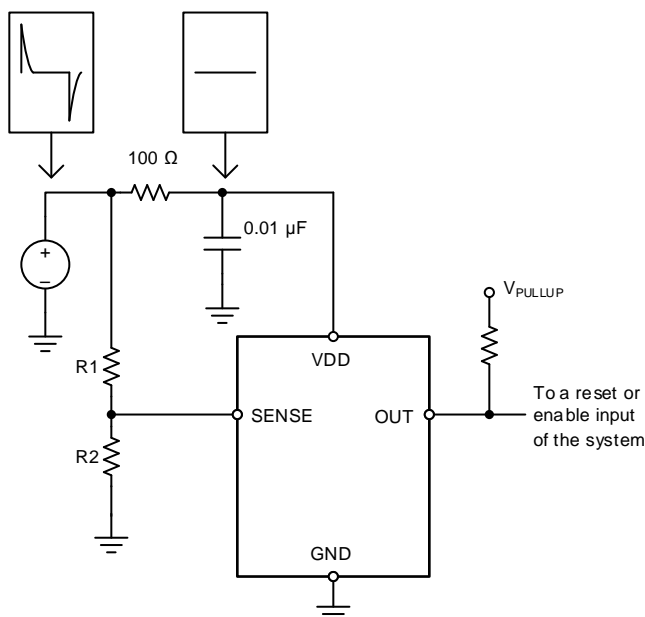

图 17. Using an RC Filter to Remove High-Frequency Disturbances on VDD
The TPS3711 has a 40-V absolute maximum rating on the VDD pin, with a recommended maximum operating condition of 36 V. If the voltage supply that provides power to VDD is susceptible to any large voltage transient that may exceed 40 V, or if the supply exhibits high voltage slew rates greater than 1 V/ μ s, then place an RC filter between the supply and VDD to filter any high-frequency transient surges on the VDD pin. In these cases, a 100- Ω resistor and 0.01- μ F capacitor are required, as shown in 图 17.
- Avoid using long traces for the VDD supply node. The VDD capacitor (C_{VDD}), along with parasitic inductance from the supply to the capacitor, might form an LC tank and create ringing with peak voltages above the maximum VDD voltage. If long traces are unavoidable, see 图 17 for an example of filtering VDD.